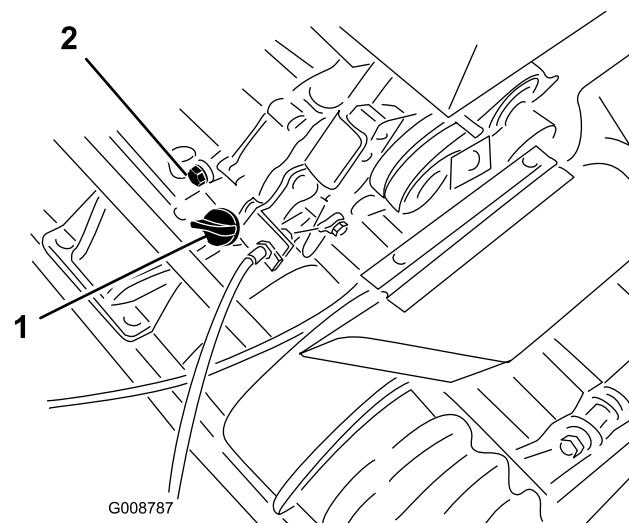

Figure 21
1. Position mower so the engine is level and clean around oil level gauge (Figure 21).
2. Place a drain pan at the rear of machine, under the drain plug (Figure 21).